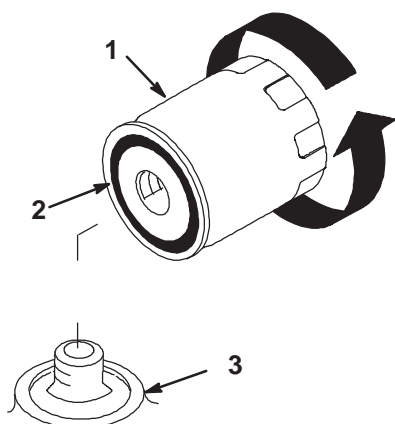

Figure 36
2. Remove the old filter and wipe the filter adapter (Fig. 36) gasket surface.
3. Apply a thin coat of clean oil to the rubber gasket on the replacement filter (Fig. 36).
4. Install the replacement oil filter to the filter adapter. Turn the oil filter clockwise until the rubber gasket contacts the filter adapter, then tighten the filter an additional 2/3 to 1 turn (Fig. 36).